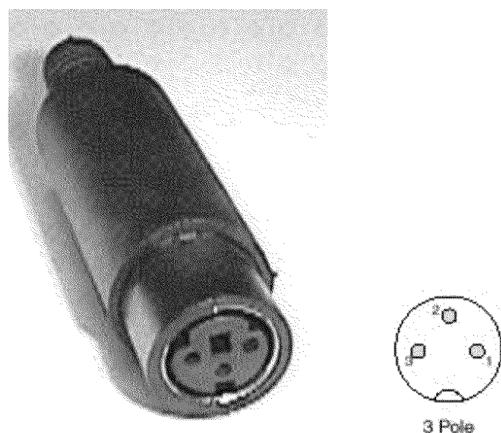

Figure 14 The Female 3 pin din plug
- 2) Connect the segment 3 cable to the segment 2 cable. Take the segment 3 cable, and connect the female 3-pin DIN plug (Figure 14) to the male 3-pin DIN plug at the end of the Segment 2 cable.